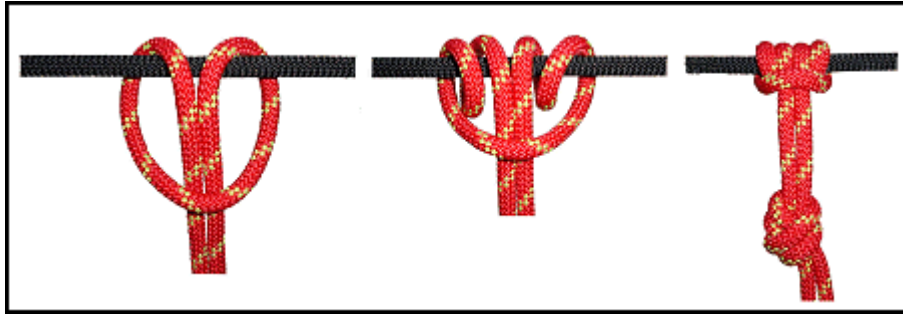

Figure 4-20. Middle-of-the-rope Prusik.
- (1) ***Middle-of-the-Rope Prusik.*** The middle-of-the-rope Prusik knot can be tied with a short rope to a long rope as follows (Figure 4-20.):